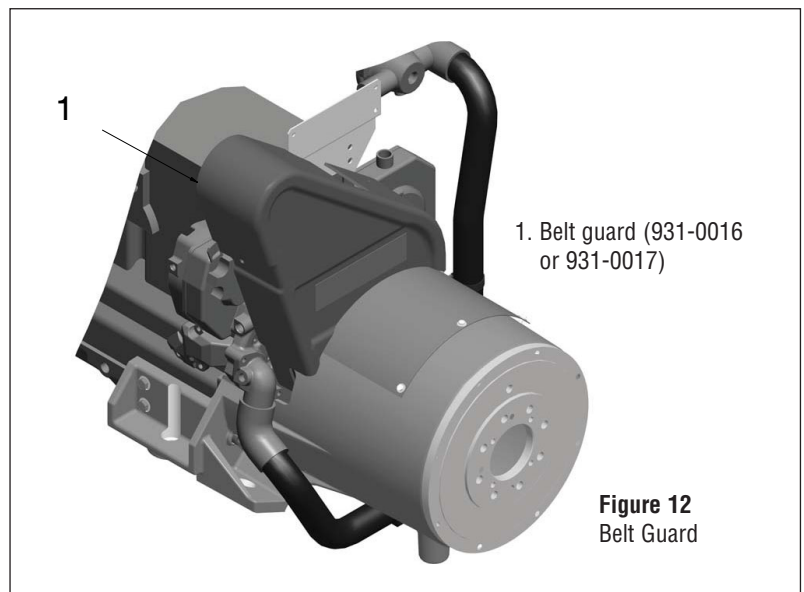

Figure 12
- 8.1 For units without a sound shield, position the belt guard (931-0016 or 931-0017) as shown in Figure 12. Secure the belt guard using the hardware and brackets that were removed in step 3.1.